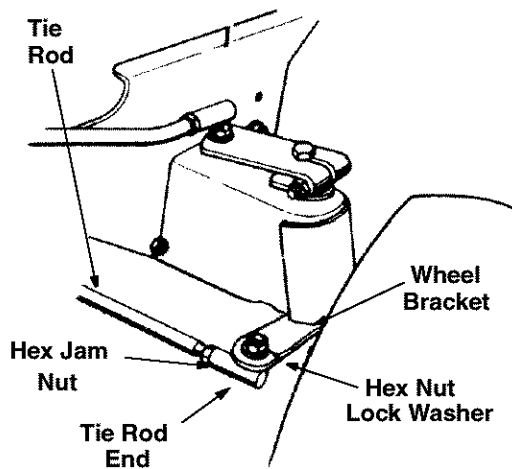

Figure 27
- Remove hex nut and lock washer, and drop the end of the tie rod from the axle bracket. See Figure 27.